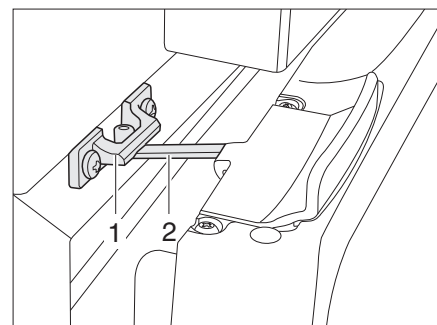

Fig. 148 Refrigerator door in ventilation position (Thetford)
- Open the lock (Bild 148,2) and snap it into the locking catch (Bild 148,1). The refrigerator door will then stay slightly open.